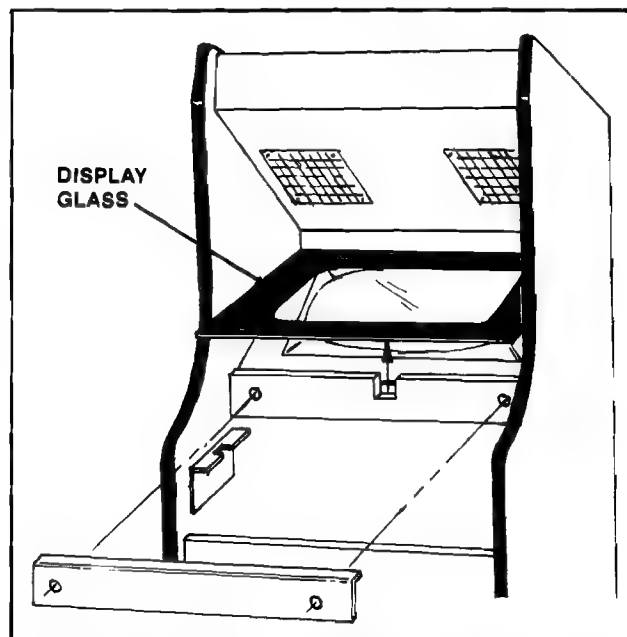

Figure 2-9 Removing the Main Display Glass -
2.5.2 MINI MODEL: (See Figure 2-9.)